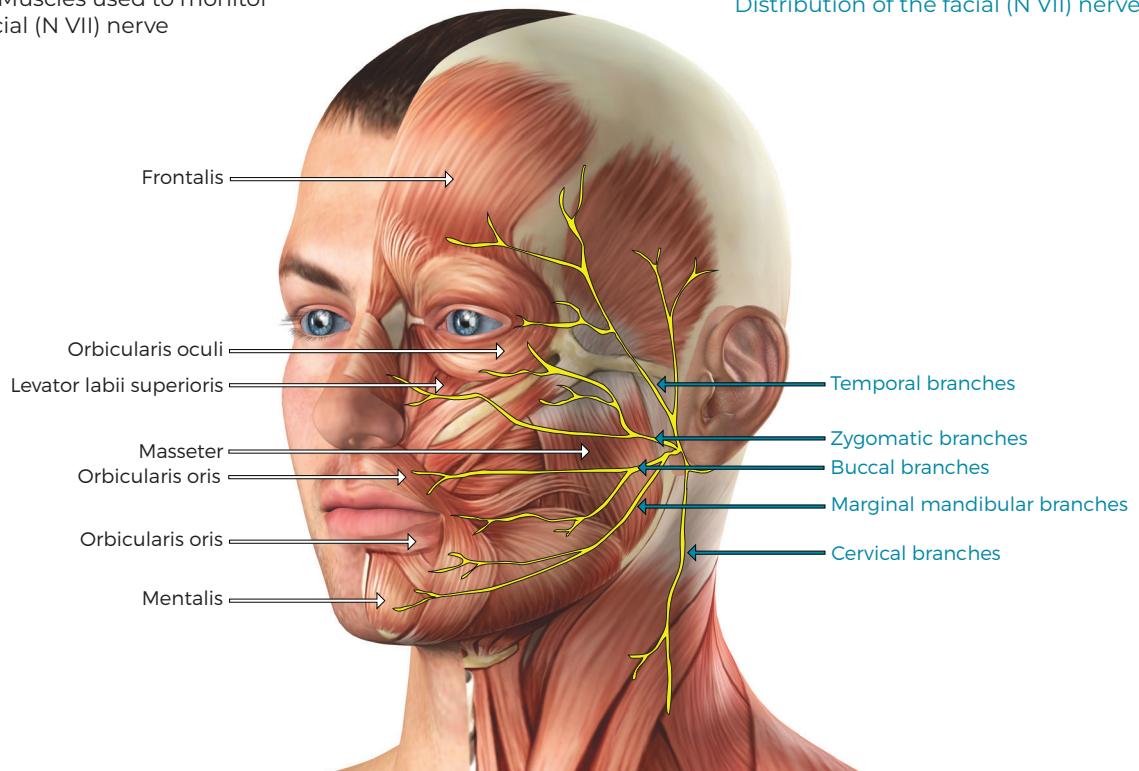

Figure 1.1: Distribution of the facial nerve (VII) and the muscles used during monitoring.
1. Refer to Figure 1.1 (page 1) and observe where the facial nerve lies in relation to the muscles used to monitor the various branches.